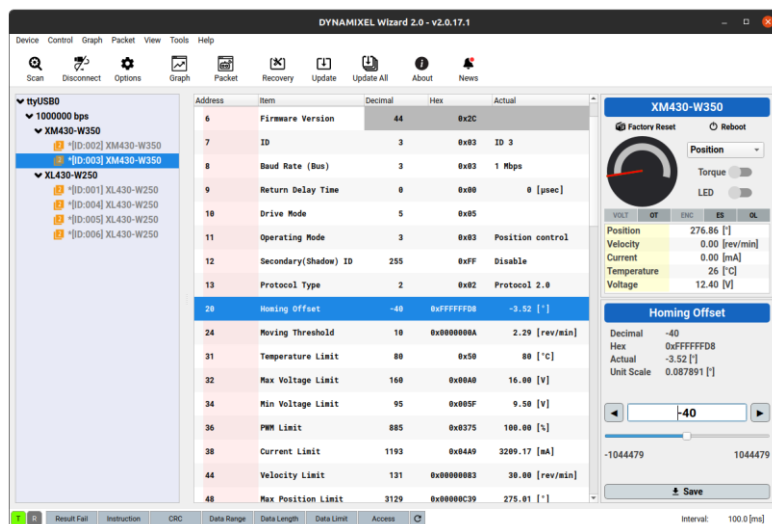

Figure 7.3: "Homing Offset" of the "elbow" joint (ID: 3) of arm 2
- Arm 2, “elbow” joint (ID: 3) adjusted: -40 units, equaling -3.52 degrees, see Figure 7.3